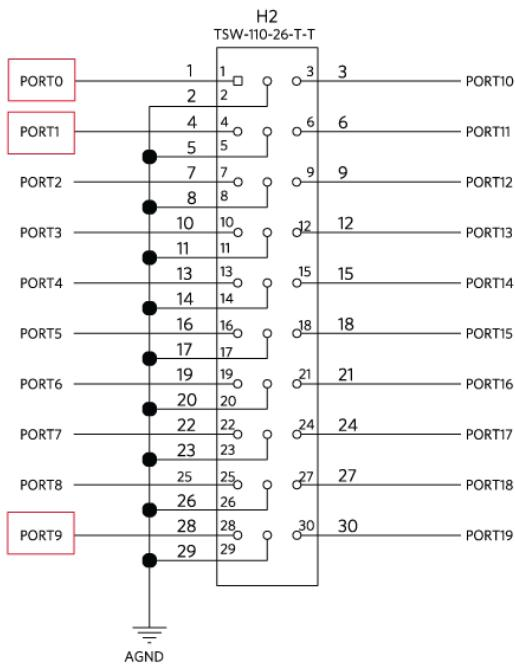

Figure 3. Header H2 pinout with the desired ports highlighted with red boxes.
4. Connect the potentiometer between PORT0 and PORT1 of the MAX11301WING, located on header H2, pins 1 and 4. **Figure 3** displays the H2 header pinout and highlights the desired ports with a red box.
5. Connect the potentiometer wiper to PORT9 of the MAX11301WING, located on header H2, pin 28. Reference Figure 3 for a pinout of the H2 header with PORT9 highlighted with a red box.